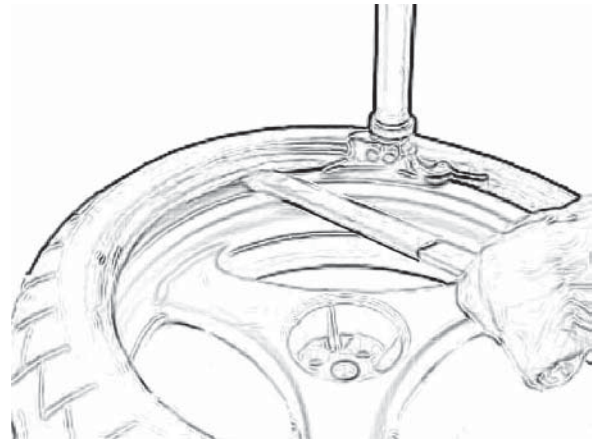

Fig. 22a
A. After installing, the bottom bead insert the tire tool to the left of the bead head as shown (Fig. 22a). To protect decorative rims use protective sleeve p/n EAA0247G04A (optional).